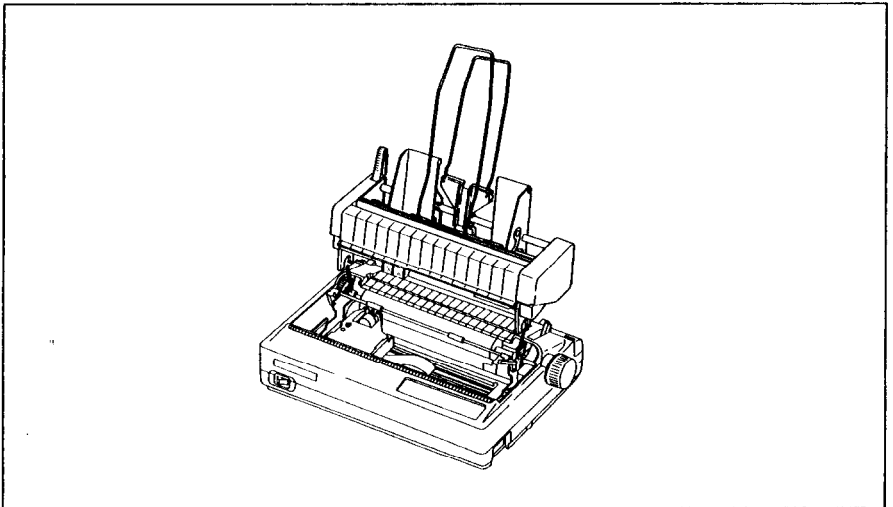

Figure 1-5. Mount the Automatic Sheet Feeder onto the printer.
6. Secure the mounting brackets of the Automatic Sheet Feeder onto the shaft of the platen by lowering it into position as shown in Figure 1-5.